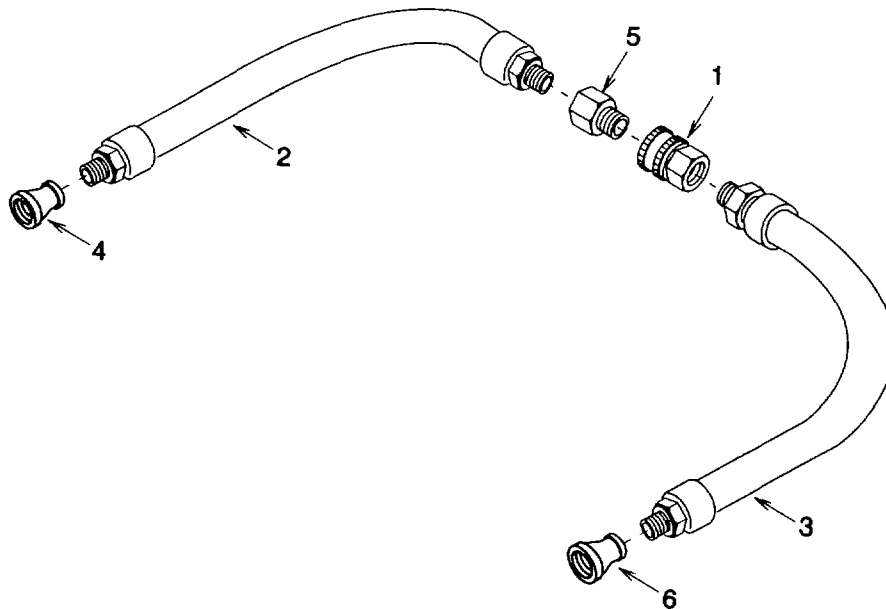

Figure 4-34. Hoses
a. Removal (See figure 4-34.)
- (1) Release quick coupling half (1) and disconnect hoses (2) and (3).
- (2) Disconnect reducing coupling (4) from hose reel swivel elbow.
- (3) Disconnect reducing coupling (4) and quick coupling half (5) from dry chemical hose assembly (2). Replace reducing coupling or quick coupling half if damaged.
- (4) Disconnect reducing coupling (6) from hose reel swivel elbow.
- (5) Disconnect reducing coupling (6) and quick coupling half (1) from AFFF hose assembly (3). Replace reducing coupling or quick coupling half if damaged.
b. Installation (See figure 4-34.)
- (1) Wrap antisieze tape onto threaded fittings of dry chemical hose assembly (2).
- (2) Connect reducing coupling (4) and quick coupling half (5) to dry chemical hose assembly (2) and tighten.
- (3) Wrap antisieze tape onto threaded fitting of hose reel swivel elbow.
- (4) Connect reducing coupling (4) to hose reel swivel elbow and tighten.
- (5) Wrap antisieze tape onto threaded fittings of AFFF hose assembly (3).
- (6) Connect reducing coupling (6) and quick coupling half (1) to dry chemical hose assembly (3) and tighten.
- (7) Wrap antisieze tape onto threaded fitting of hose reel swivel elbow.
- (8) Connect reducing coupling (6) to hose reel swivel elbow and tighten.
- (9) Release quick couplings half (1) and connect hoses (2) and (3) together.